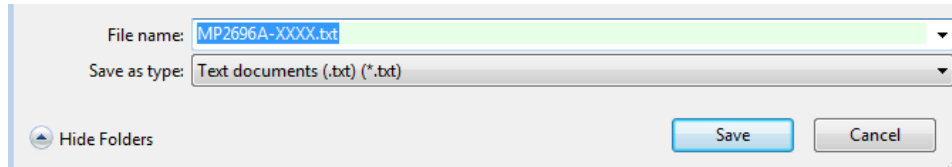

Figure 11: Saving Configurations as a .txt File
5. Find a location for the exported file, and click “Save.” The configurations are saved in a .txt file (see Figure 11).